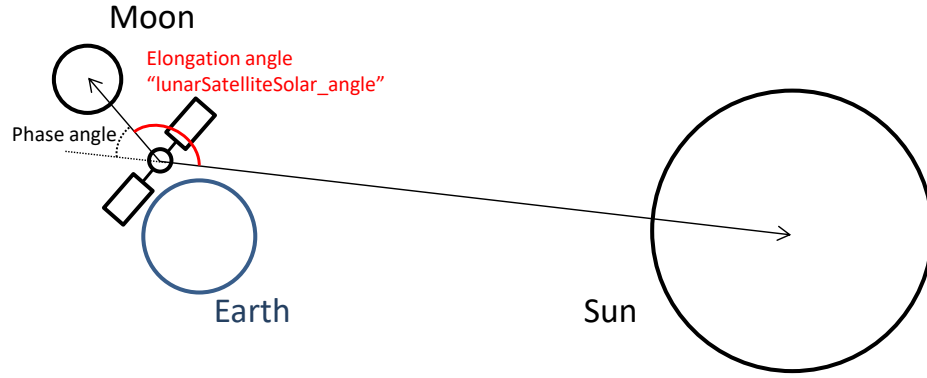

Figure 3.5.8-2 Angle between lunar-satellite vector and solar-satellite vector.
(3) The Definition of scattering angle (Figure 3.5.8-3)